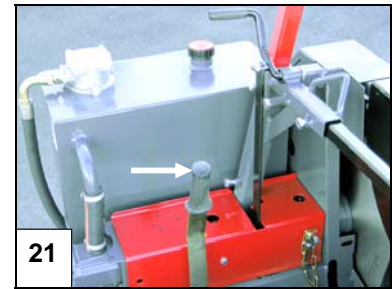

Fig. 21. Manual starter for the splitting operation
6.4 Hand-start of the splitting motion, Figure 21